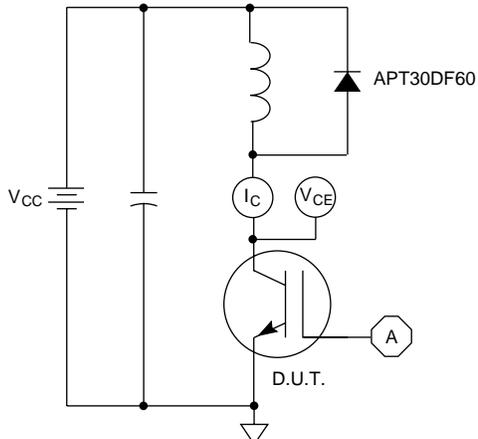

Figure 21, Inductive Switching Test Circuit
- ⑤  $E_{on2}$  is the clamped inductive turn-on energy that includes a commutating diode reverse recovery current in the IGBT turn-on switching loss. A Combi device is used for the clamping diode as shown in the  $E_{on2}$  test circuit. (See Figures 21, 22.)
- ⑥  $E_{off}$  is the clamped inductive turn-off energy measured in accordance with JEDEC standard JESD24-1. (See Figures 21, 23.)